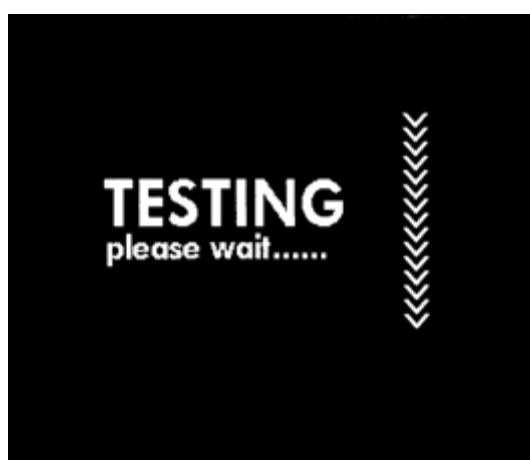

Figure 5-2 Waiting message
6. In the main screen, touch **<STAR>**. The system starts a test and displays a waiting message on the screen as Figure 5-2.
5. Touch **<STAR>**. The system starts a test and displays a waiting message on the screen as Figure 5-2.